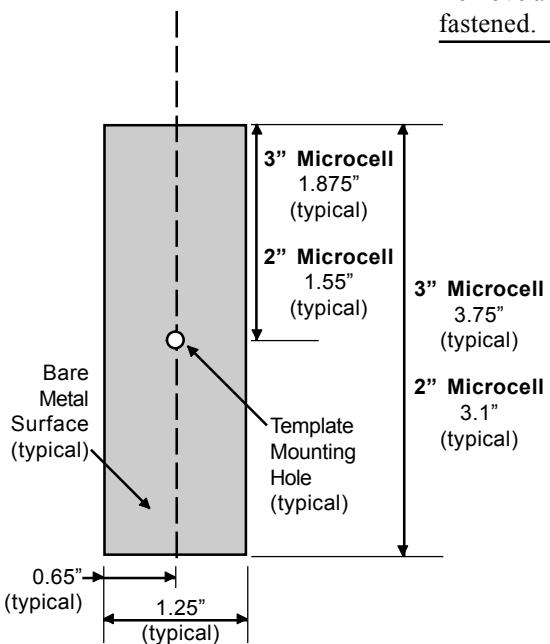

Figure 6-8. Prepared Mounting Surface
1. Using the #8-32 tap, thread the template mounting hole for the vertical Microcell (drilled during *Surface Preparation*) to a minimum $5/8"$ (16mm) depth, full threads. Remove any burrs from the hole. Fig 6-8